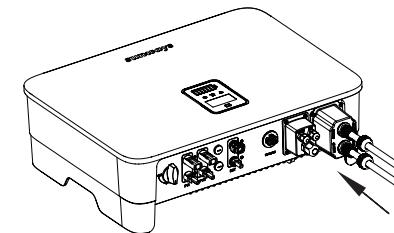

Figure 4-33
- ⑦ Screw up the rubber ring and anti-water cap to make sure the AC connector is well sealed, as shown in Figure 4-33: